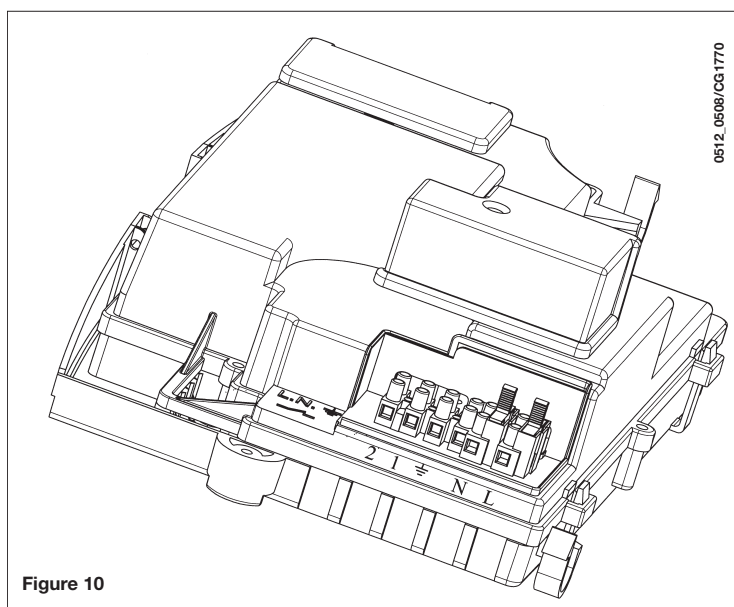

Figure 10
- unscrew the lid and gain access to the wiring (Figure 10).
- reach the power supply terminal block (figure 10);
- connect the room thermostat to the terminals (1) - (2) and remove the jumper.